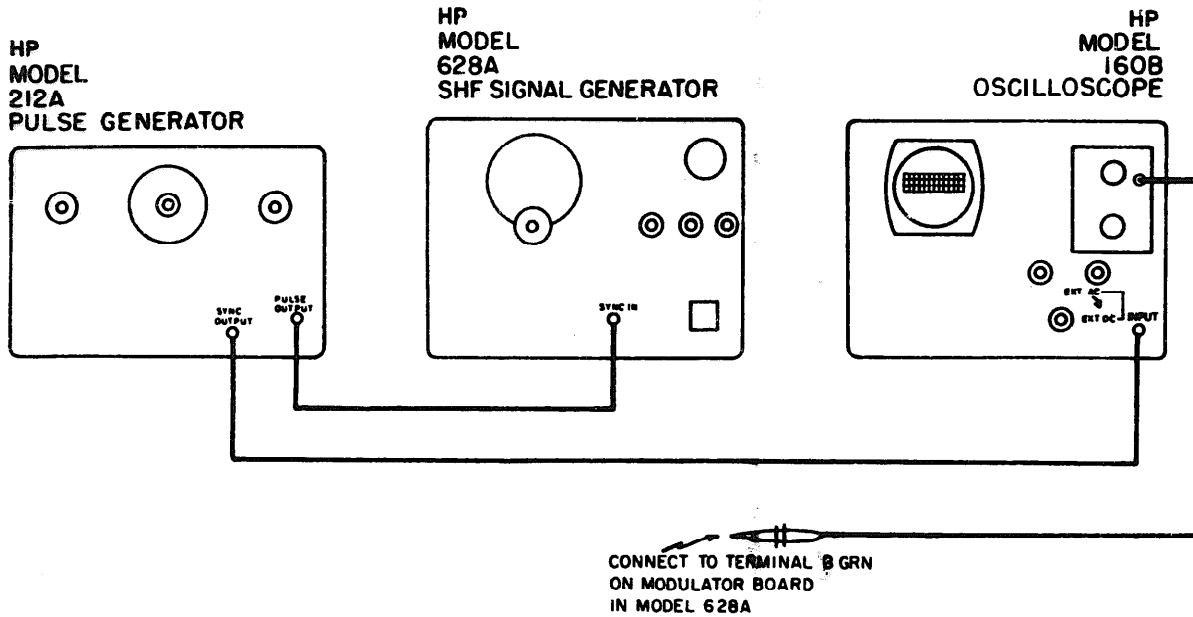

Figure 5-7. Test Setup for Schmitt Trigger Level Adjustment
- a. Connect test setup as shown in Figure 5-7. Oscilloscope **Vertical input** is to be connected to **terminal B GRN** on modulator board.